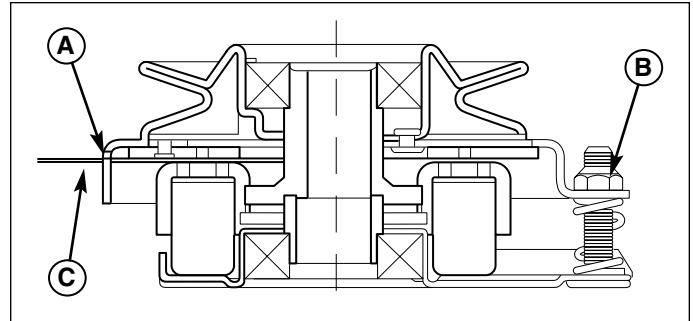

Figure 14. Adjust PTO Clutch
3. Insert a .016"-.018" (0,40-0,45mm) feeler gauge (C) through each window, positioning the gauge between the rotor face and the armature face as shown in Figure 14.